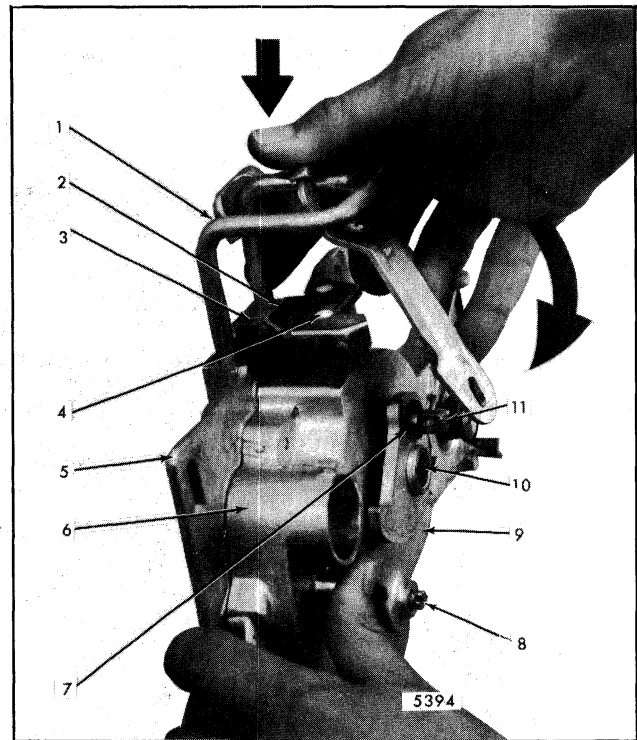

Fig. 7-35-Closing Unit Link Installation
6. Thread link and cover assembly onto long leg side of striker (Figs. 7-35 and 7-34).
8. While lowering striker into striker guides, rotate link and cover assembly as shown in Figure 7-35 until slotted hole in lower end of link slips onto the output cam pivot pin.